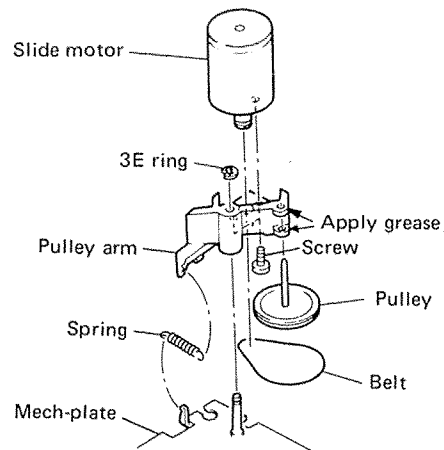

Fig. 13
8. Disassembling and assembling of SLIDE MOTOR section. (Fig. 13)